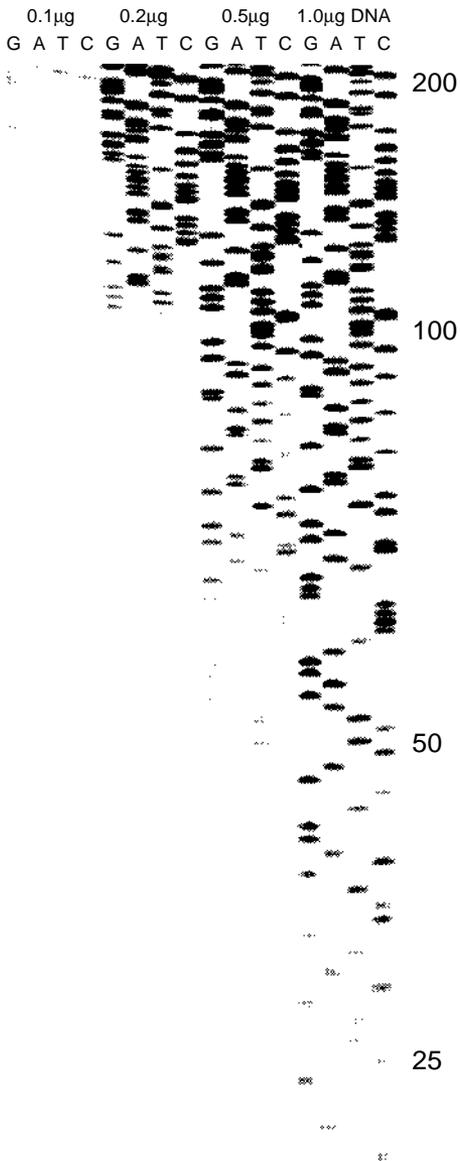
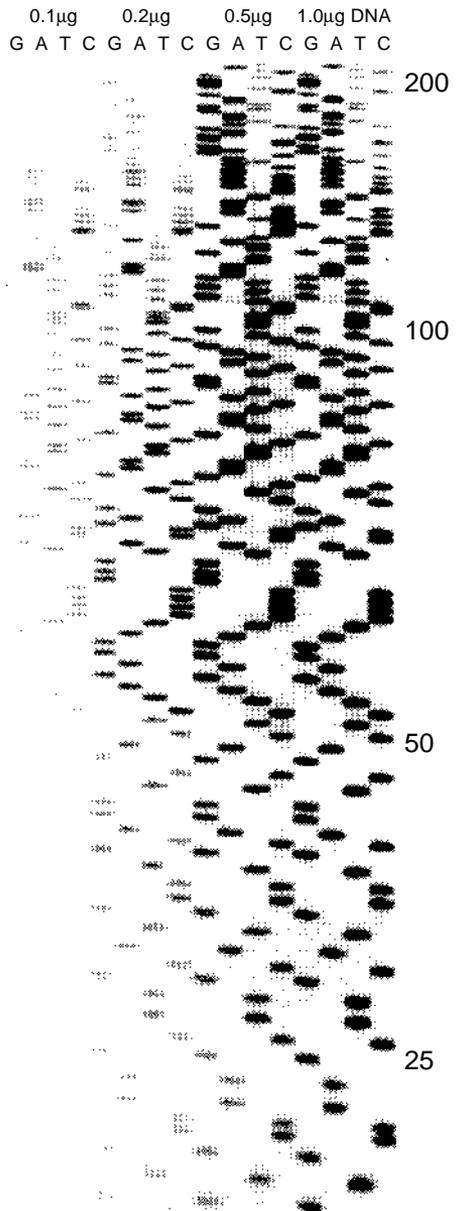

Figure 1. Normal sequences with Mg^{2+}
Figure 2. Sequences with Mn buffer
Mn Buffer method—The general conditions will generate sequencing ladders which are faint or absent for nucleotides close to the primer if limited amounts of DNA (less than 0.5pmol or approximately 1µg of M13) are used for the reactions (figure 1). A solution to this situation is to add the Mn Buffer. This reagent takes advantage of the activity of Sequenase Version 2.0 DNA polymerase in the presence of Mn²⁺ ions (17). The addition of Mn²⁺ to normal (Mg²⁺) sequencing reactions (with fixed deoxy- to dideoxy- ratios) reduces the average length of DNA synthesized in the termination step, intensifying bands corresponding to sequences close to the primer. With Mn²⁺, sequences from less than 20 nucleotides from the primer up to approximately 200 nucleotides can be observed even with reduced amounts of template (figure 2).